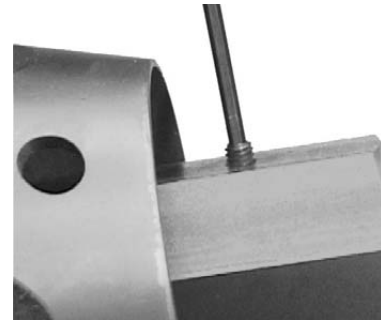

Figure 8-11. Remove Set Screw from Adapter.
- Remove the Cone Point Set Screw (17) as shown in Figure 8-11.